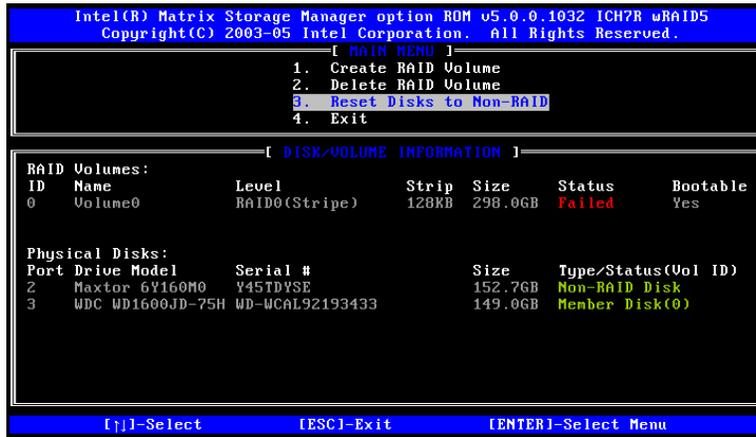

Figure F-15: Disk Drive and RAID Volume Status
Step 4: **Disk Drive and RAID Volume Status.** After the disk drives have been reset, the **Matrix Storage Manager Main** menu is shown indicating the status of the RAID volumes and disk drives. See **Figure F-15**.